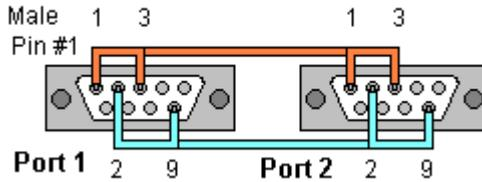

Fig. 7.3 RS-485 Connections for 2-Wire Mode
8. To check 2-wire RS-485, you must either enable the receiver by moving the receive jumper to RX ENABLE mode (Table 1), or use one port to transmit to another by cross connecting (Fig. 7.3) and loading COMTest twice, one copy for each port.